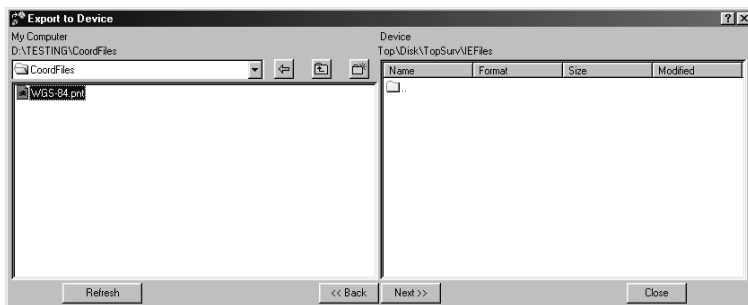

Figure 2-42. Select File for Export and Folder for File
2. In the left panel, select the desired coordinate file for export (Figure 2-42).